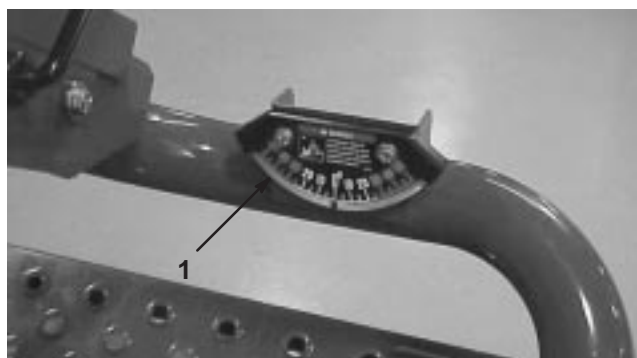

Figure 7
2. Verify that the machine is level by placing a hand held inclinometer (supplied with the machine) on the frame cross rail, by the fuel tank (Fig. 7). The inclinometer should read zero degrees when viewed from the operator's position.